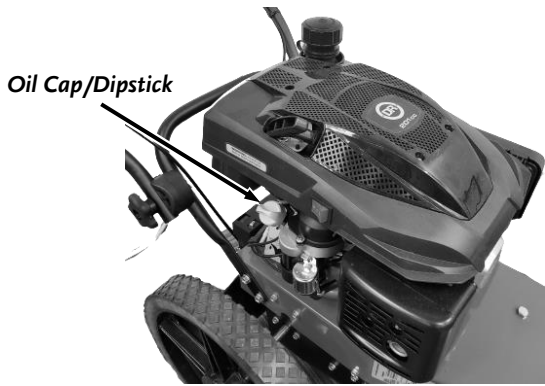

Figure 44
1. Remove the Oil Cap/Dipstick and position the tube of the Extractor into the Oil Cap/Dipstick hole (**Figure 44**).